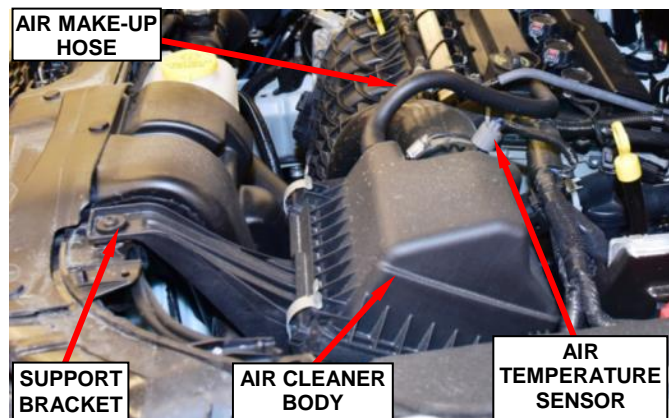

Figure 67 – Air Cleaner
13. Disconnect the make-up air hose from the engine valve cover (Figure 67).
14. Remove and save the bolt from the air cleaner body support bracket (Figure 67).
16. Remove and save the air cleaner body assembly (Figure 67).